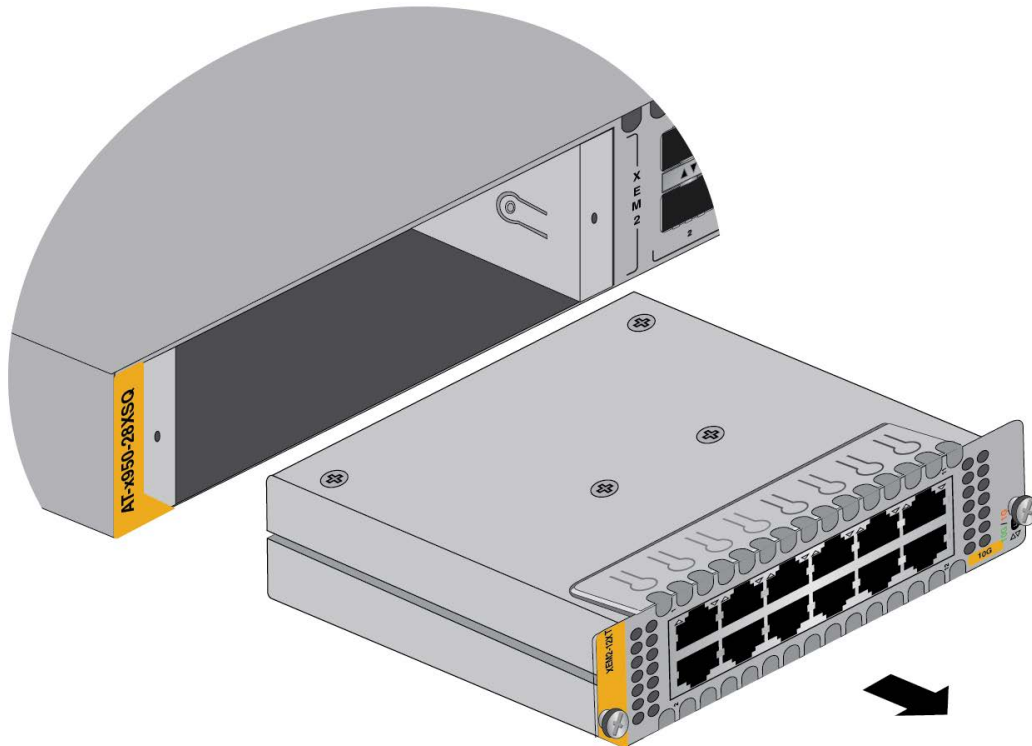

Figure 142. Sliding an Ethernet Line Card from the Switch
6. Carefully slide the card from the switch. Refer to Figure 142.